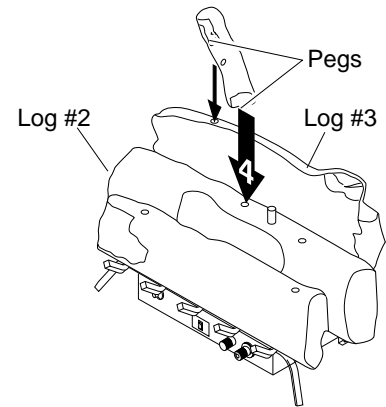

Figure 29 - Installing Crossover Log (#4)
4. Locate pegs on the bottom of crossover log (#4). Slide these pegs into the holes located in middle log (#2) and back log (#3). See Figure 29 for placement.